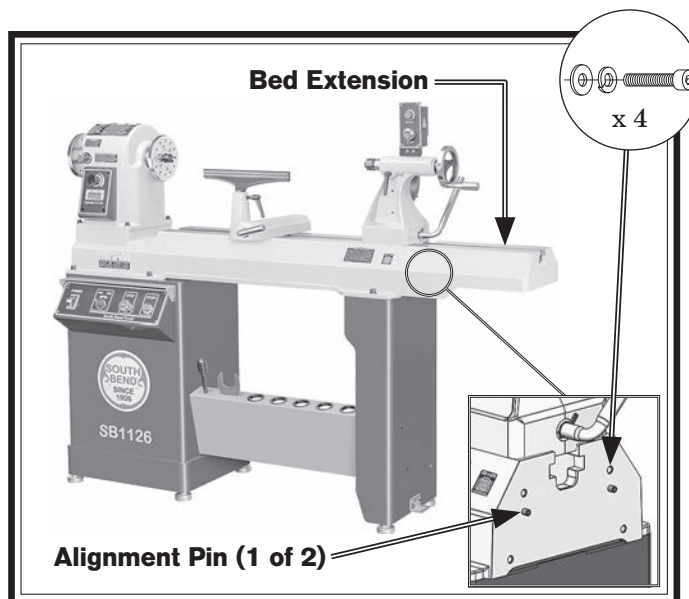

Figure 10. Bed extension installed on bed.
4. With help from an additional person, position bed extension on alignment pins on right-hand end of bed (see Figure 10).
5. Secure bed extension with (4) M10-1.5 x 30 cap screws, 10mm lock washers, and 10mm flat washers (see Figure 10).